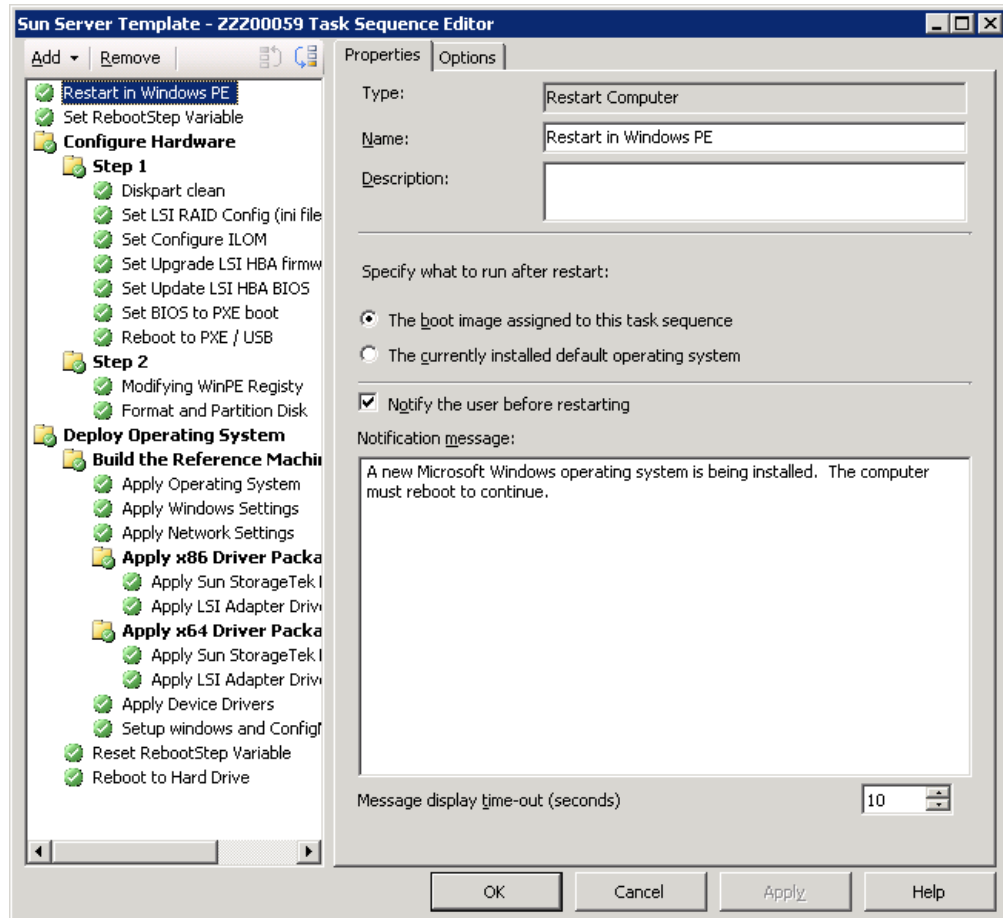

Figure 3: Assigned Boot Image
- If the environment is WinPE, it goes to the next task step, otherwise the client reboots into WinPE using the boot image assigned to this task sequence (assuming the boot image assigned to this task sequence is a WinPE boot image) as shown in Figure 3.